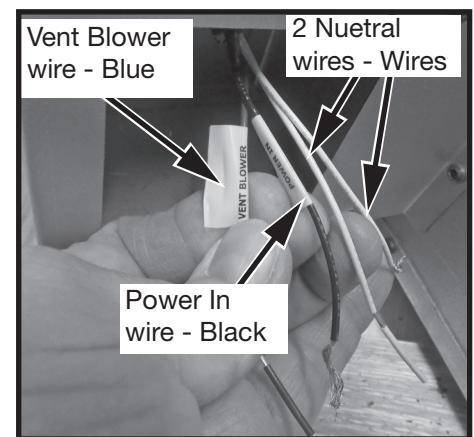
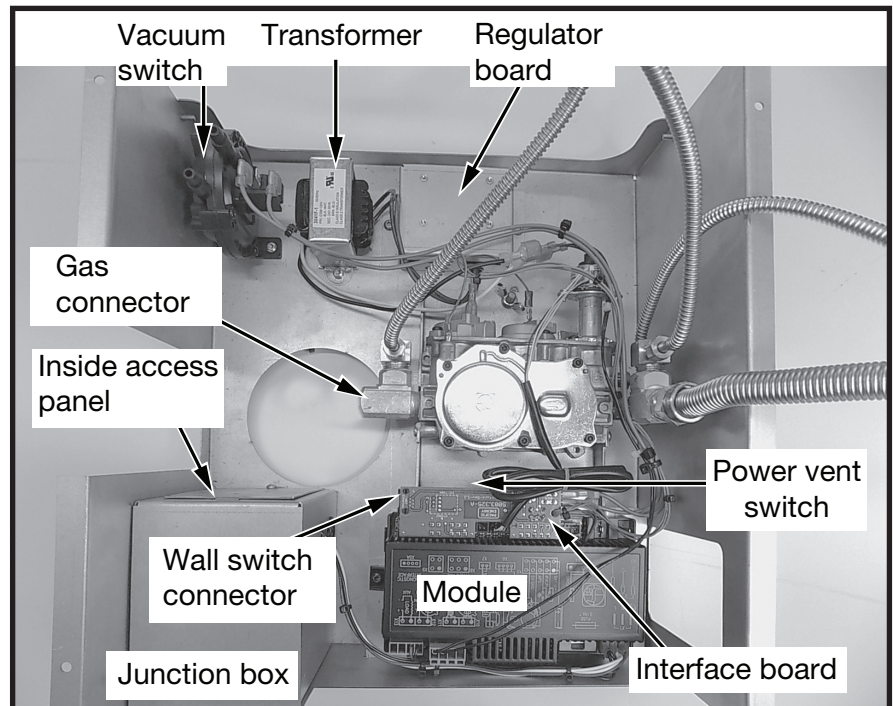
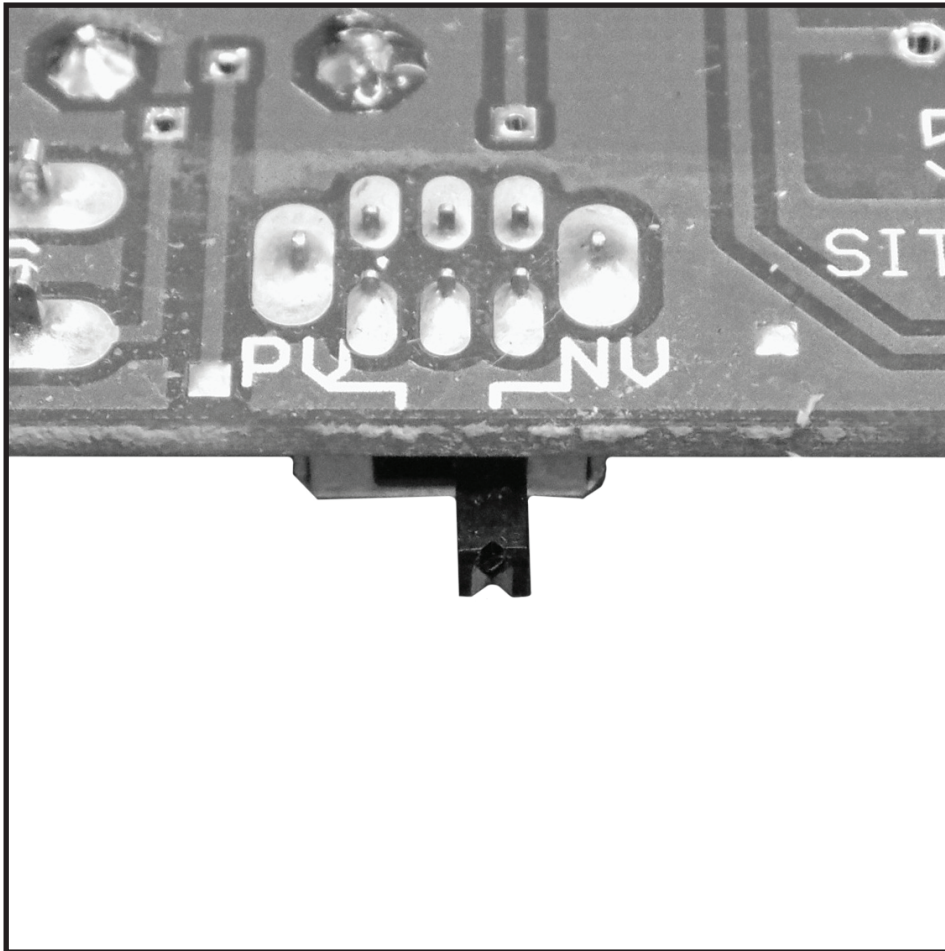

Figure 23: Junction box wiring.
Figure 24: Valve assembly components.
Figure 28: Natural vent - Power vent switch.
4. Connect 110 V. AC electrical supply to the wires installed inside the junction box - (Figure 23). The fireplace is rated at 110 volts, 60Hz, 0.25A. The optional power vent kit is rated at 115 volts, 60Hz, 1.8A.
The electrical wires can be accessed from both inside and outside the junction box by removing one of the two small access panels (Figure 23) & (Figure 24).
7. Attach one end of the wall switch control cable to the wall control. (Figure 27) , and the other end to the interface board (Figure 24).
The NV / PV (Natural Vent / Power Vent) switch (Figure 28) on the interface board (Figure 24) is set according to which type of evacuating vent system is present. If the fireplace is vented without the assistance of a power vent, the switch should be set to “NV”. If using a power vent, “PV” should be selected. Follow the instructions provided with the power vent kit for proper installation.
1. Connect the gas supply to the gas connector (Figure 24).